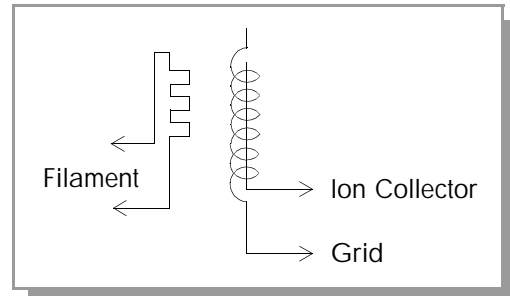

Figure 5-5 Micro-Ion Gauge Schematic.
1. Press the top half of the power ON switch on the rear panel of the Controller (see Figure 5-5).
The functional parts of a typical ionization gauge are the filament (cathode), grid (anode) and ion collector, which are shown schematically in Figure 5-5. These electrodes are maintained by the gauge Controller at +30, +180, and 0 volts, relative to ground, respectively.